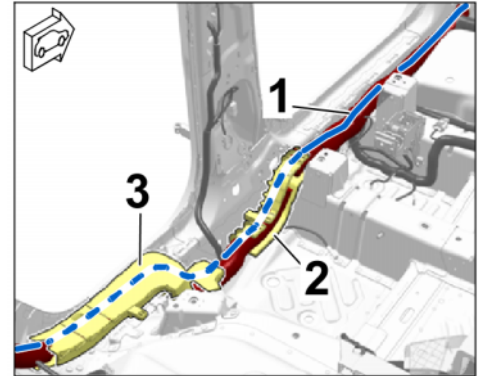

*Figure 15*
3.2.1 A-pillar area, left (⇒ *Figure 15*)